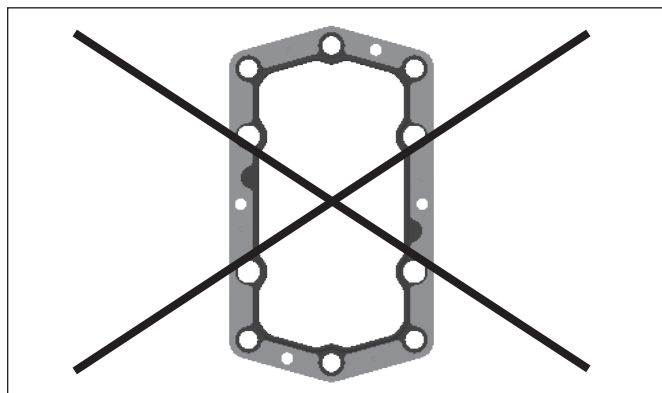
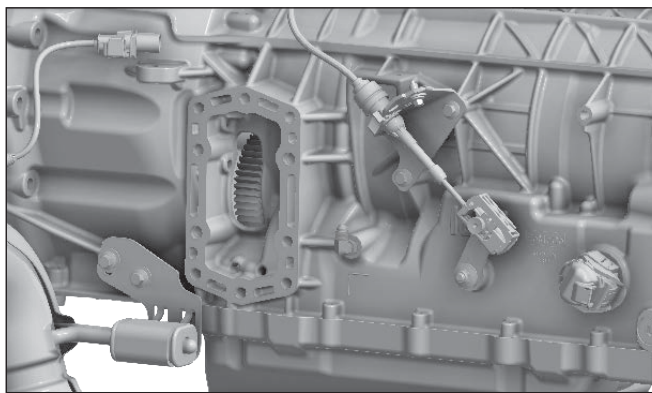

Figure 16
Figure 17
5. Remove and discard the PTO aperture cover plate and gasket. Do not use this gasket when installing the PTO (**Fig. 16 and Fig. 17**).